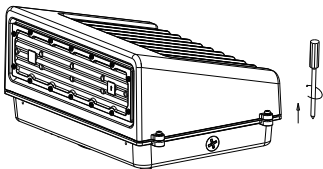

Fig. 2-1A
1. Take out the light, and loosen the screws on the cover and take apart the fixture by the screwdriver. Pull off the quick connect terminal vigorously. (Fig. 2-1A&B)